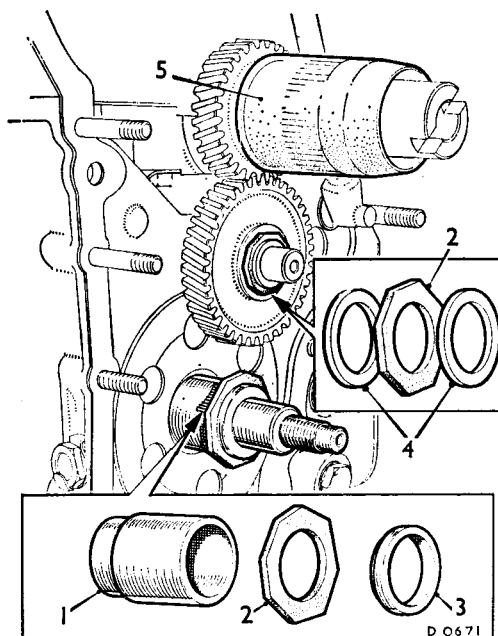
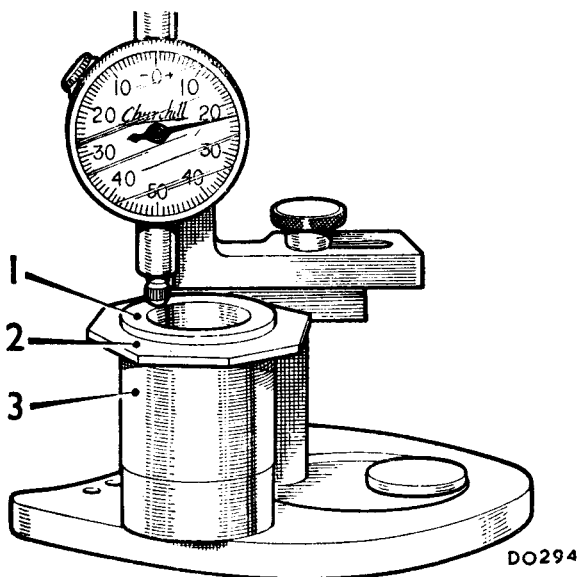

Fig. Aa.17
Fig. Aa.18
33. Fit Service tool adaptor 18G 1089 A over the input shaft. Use Service tool 18G 1089/1 to cut a dental wax washer, and fit the wax washer with Service tool 18G 1089/1 over the input shaft (see Fig. Aa.17).
34. Carry out items 26 and 27.
36. Remove the converter housing and withdraw the adaptor assembly 18G 1089 A, wax washer, and 18G 1089/1. Substitute this complete assembly for the input gear on the surface plate (see Fig. Aa.18).
37. Use the dial test indicator gauge. Service tool 18G 191, and measure the thickness of this assembly (see Fig. Aa.18). The mean reading obtained indicates the total thickness of shims required to eliminate end-float. To this figure add shims to the value of .001 to .003 in. (.025 to .076 mm.) to give the required input bearing preload.